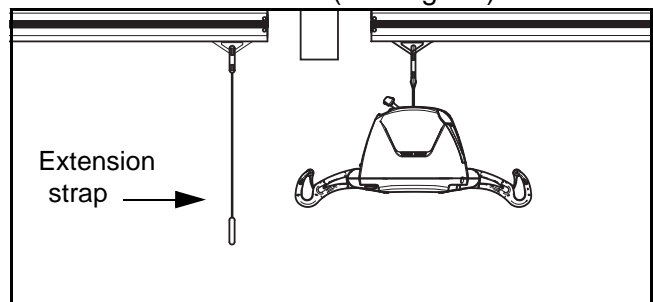

Fig. 18
- 1) Bring the unit to the end of the rail. Bring the other trolley to the end of the rail to which the lift will be transferred (see Fig. 18).